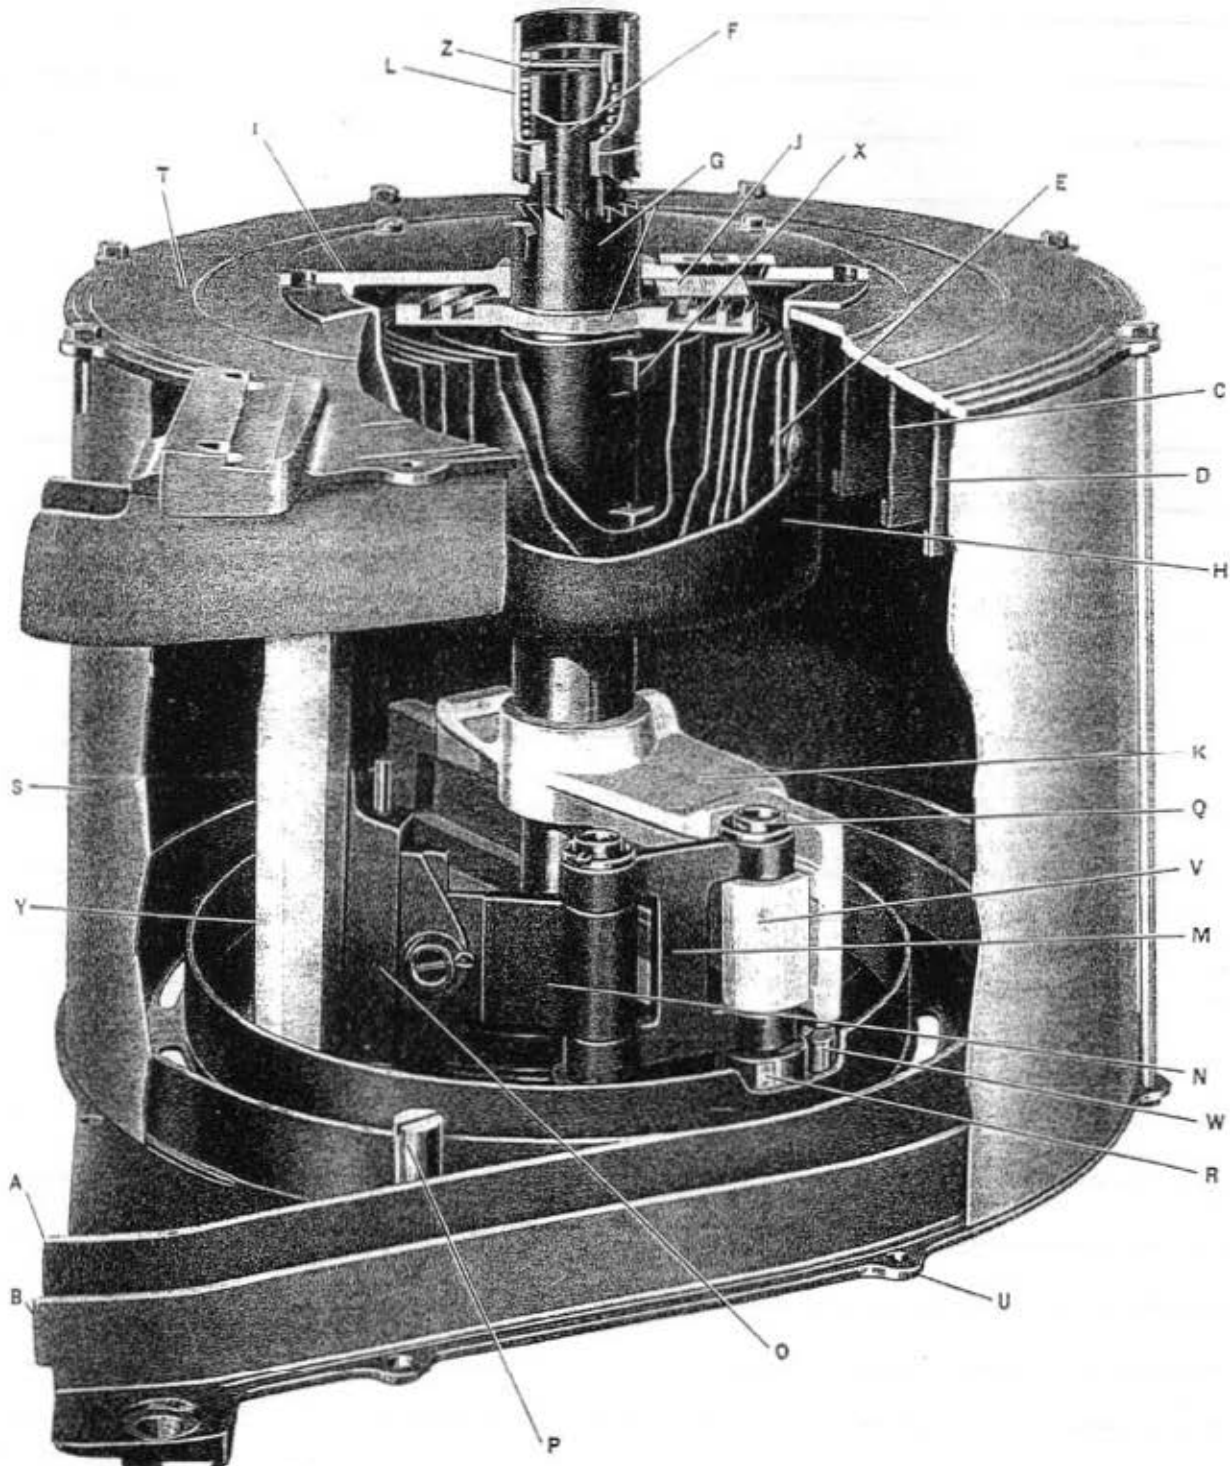

Figure 47—Magazine Internal Parts
The feed system maintains a pressure on the innermost round, by means of a wound clock spring (E), Figure 47, that is always endeavoring to push the rounds around the spirals (A, B, C and D), and out of the magazine mouthpiece. The lips of the magazine mouthpiece are partly closed so that a round can pass through it only by being pushed out longitudinally at a right angle to the direction of the feed drive, a gap being cut in the front, or muzzle end, of the mouthpiece to allow the rounds to slide in or out.
The pressure on the innermost round is from a clock spring (E), Figure 47, that is housed in the magazine casing. The outer end of the spring is held to a spring case by a securing pin at (E). The spring case is bolted to the magazine casing by screws, thus fixing the outer end of the magazine clock spring. The inner end of the spring is hooked on the spring axis (G) at point (X), and any tension on the spring (E) tends to turn this spring axis (G). This spring axis (G) can either rotate freely on the mainshaft (F), or can be coupled to it by a spring coupling sleeve (L) having ratchet teeth. When this coupling sleeve (L) is in engagement the tension of the clock spring (E) is transmitted to the main shaft (F) tending to rotate it.
The spring axis (G) has a spiral groove cut on its flange, and this spiral groove actuates an indicator block (J), Figure 47, that slides in a radial direction in the cover plate (I). This block (J) is an indicator of the amount of tension in the spring (E), and it also stops the winding or unwinding of the spring when the end of the spring axis spiral groove is reached.
The following are the references on Figure 47: